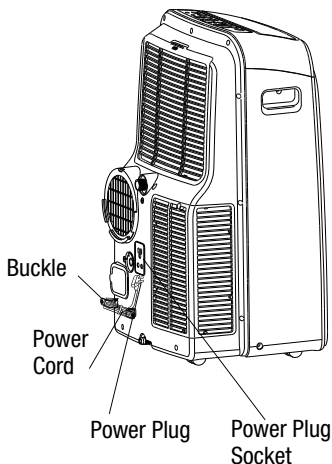

FIG. 29
- Stop the appliance and unplug it. Wrap the cord around the power cord buckle and insert plug into power plug socket for storage. (See Fig. 29.) Remove the batteries from the remote control.